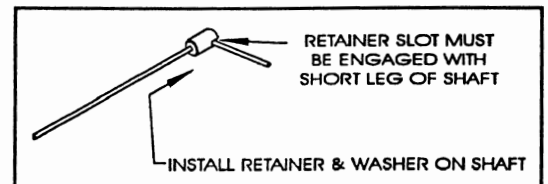

Figure 22. Assembly of Shaft Components
- As shown in Figure 22, gently pull entire Shaft/Retainer/Washer Assembly (Items 12, 1 & 16) straight outward from Item 3 Guide.
- Clean all exposed surfaces of Item 1 Retainer, item 16 Washer, Item 12 Shaft, Item 3 Guide and offset Counterbore of Item 37 LLS Body from which Guide was removed.
- Slide Retainer, slotted end first, onto shaft followed by Washer; Slot must engage Short Leg of Shaft (Figure 22).
- As shown in Figure 22, carefully install LLS Shaft Assembly into Guide. To help prevent bending Shaft, apply a twisting motion to Shaft when inserting through Orings.